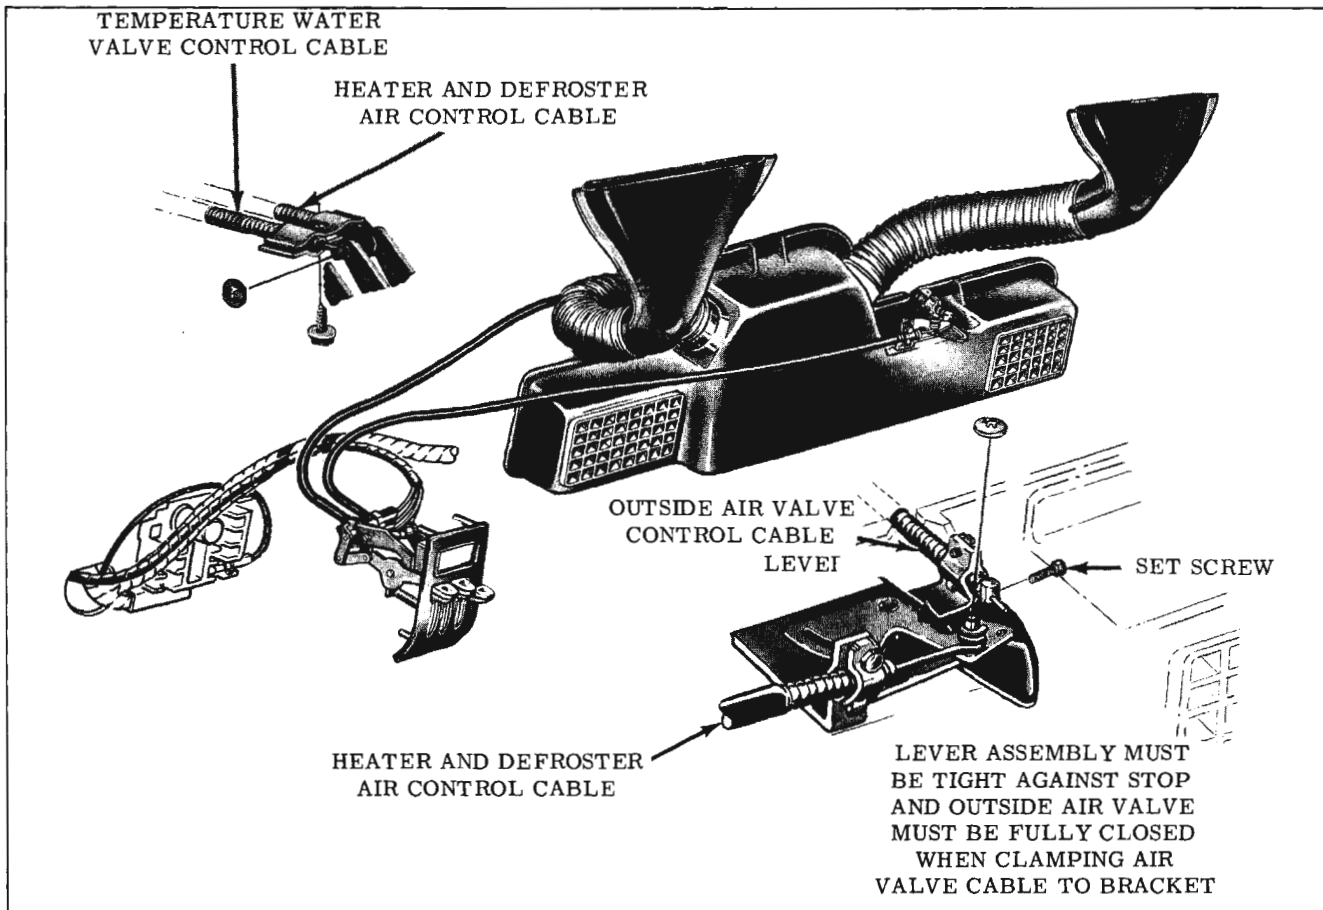

Fig. 15-105 Heater Control Cable Adjustments
1. Loosen heater-defroster cable clamp at lever assembly on air distributor. (Fig. 15-105)
2. Using a .30" spacer above the air control lever, set and hold lever against spacer. (Fig. 15-105)